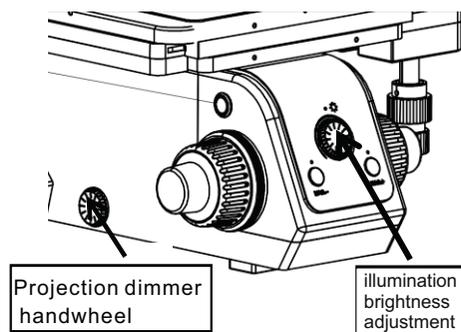

Fig.11
- (1) Turn on the power and put the main switch in the "-" state.
- (2) Adjust the dimming handwheel ①, and adjust the lighting brightness until it is comfortable to observe. Turn the dimming handwheel clockwise to enhance the brightness; On the contrary, it will weaken (as shown in Fig.11)